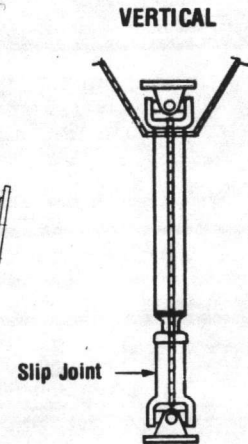

Fig. 4
• For VERTICAL INSTALLATIONS additional protection must be provided in order to eliminate the possibility of drive shaft from coming apart at the Spline connection (SLIP JOINT). Fig. 4 CAUTION: The dust cap and spline seal could be damaged by incorrectly hanging the drive shaft in a vertical position.